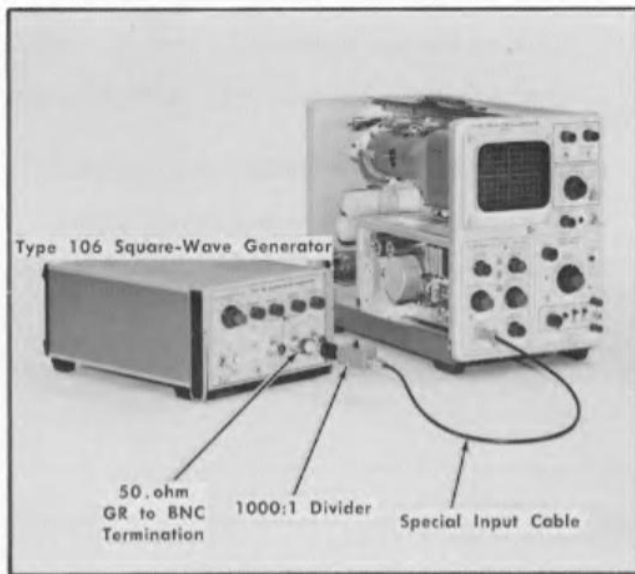

Fig. 6-20. Initial test equipment setup for steps 16 through 18.
16. Adjust Millivolts/Div Compensation ①
- a. Test equipment setup is shown in Fig. 6-20.